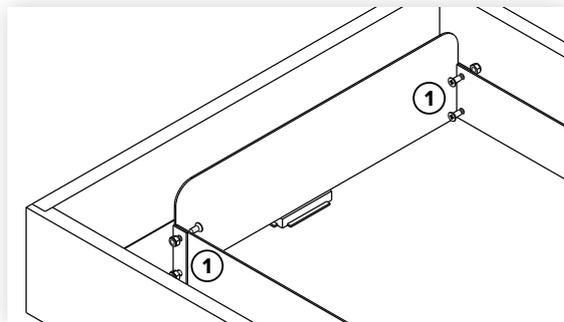

figure 1
1. Using fixings ① attach the runner plate to the ends of the two metal runners (figure 1).